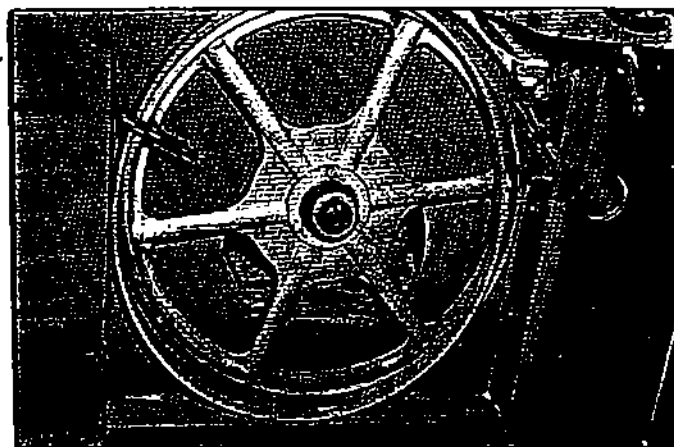

Fig. 10
1. Place one portion of the tire completely on the wheel and fasten using a clamp, as shown in Fig. 10.